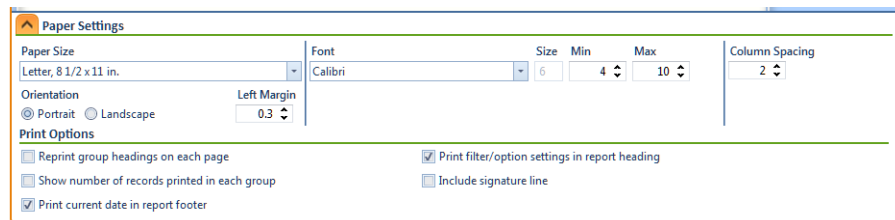

Figure 16-33. Paper Settings
- 9 Complete the following steps to add and remove fields in the report layout theme as needed (Figure 16-33):
- 11 Click  **Paper Settings** to open the property settings panel (Figure 16-33).